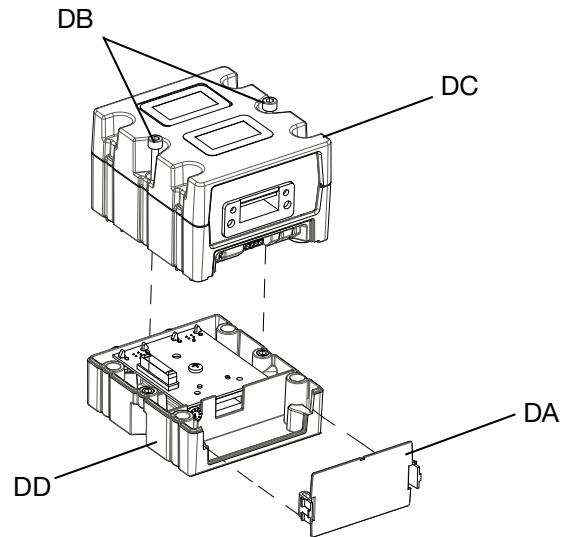

Fig. 66: Disassembling the CGM
4. Remove the access cover from the CGM (DA). Loosen and save the two M5-0.8 x 45 mm x screws (DB), and remove the CGM (DC) from the base (DD). See Fig. 66..